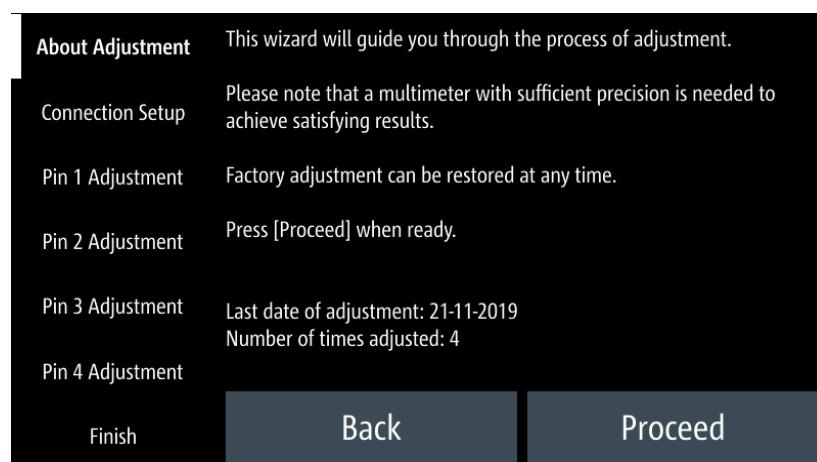

Figure 5-37: Analog In adjustment wizard
4. Follow the on-screen instructions displayed in Figure 5-37.